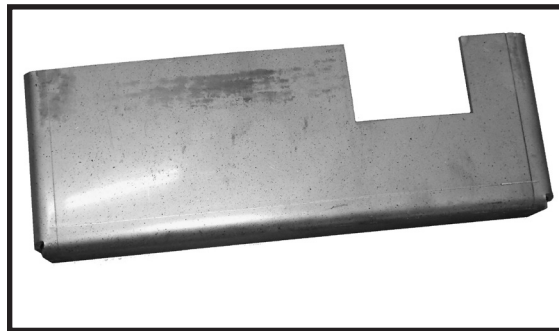

Figure 23: Bottom shield.
1. Install the Stainless Steel Bottom shield (Figure 23) over the blister in the bottom of the firebox, as shown in Figure 24,25